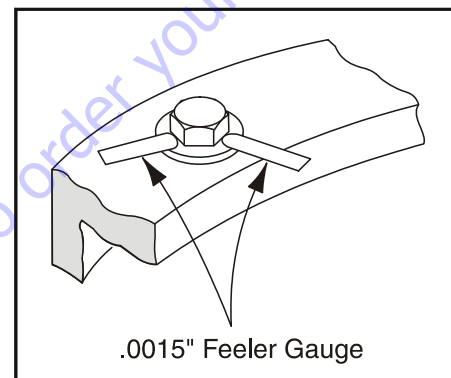

Figure 3-59. Swing Bolt Feeler Gauge Check
- b. At the positions indicated on Figure 3-59, try and insert the 0.0015 in. feeler gauge between the bolt head and hardened washer at the arrow indicated position.
- d. At the position indicated on Figure 3-59, try and insert the 0.0015 in. feeler gauge between the bolt head and hardened washer at the arrow indicated position.